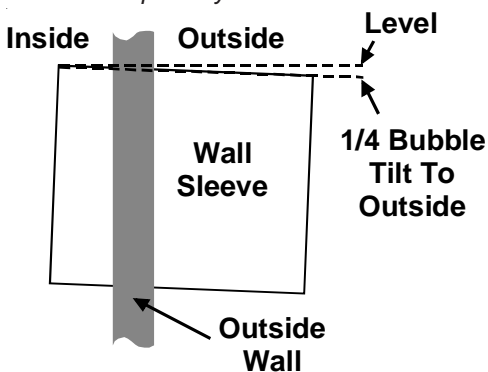

Figure 3
- A slight downward pitch from the indoor side to the outdoor side as shown in Figure 3.